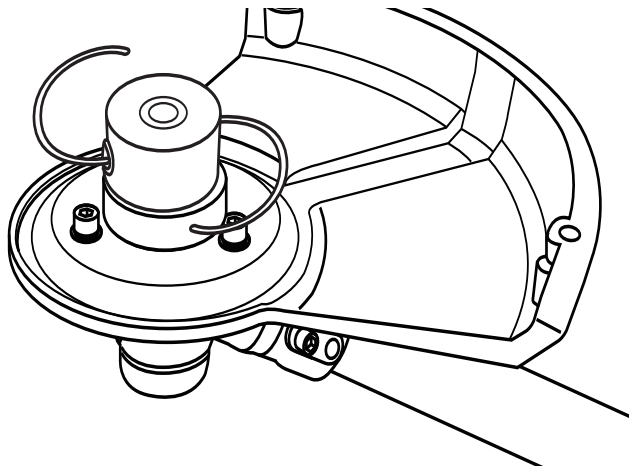

Fig. 7
2. Align the trimming head in the pole (Fig. 7).